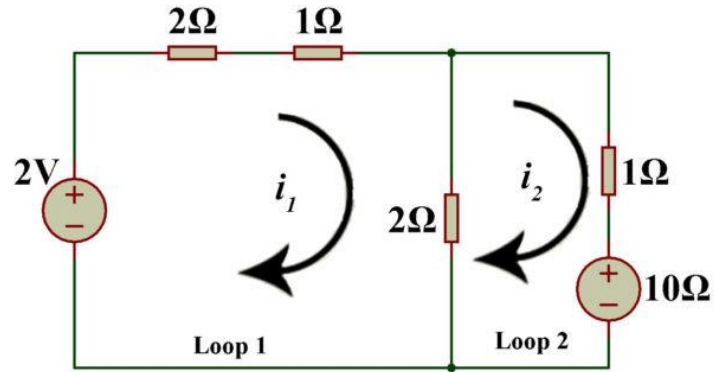

Figure: 2
**Solution:** The current source is first converted to an equivalent voltage source and the loop currents are named (Figure 2).